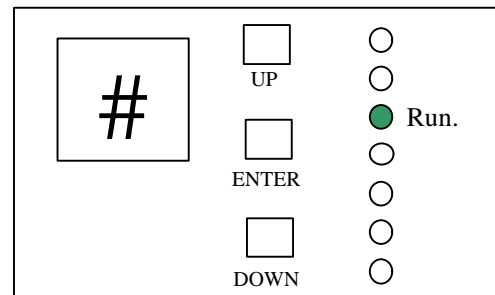

Figure 8
1. When you are satisfied with the values that you have selected, press the UP or DOWN keys until the green lamp next to RUN is illuminated. The display will show how many *steps* were programmed for the session (Figure 8).